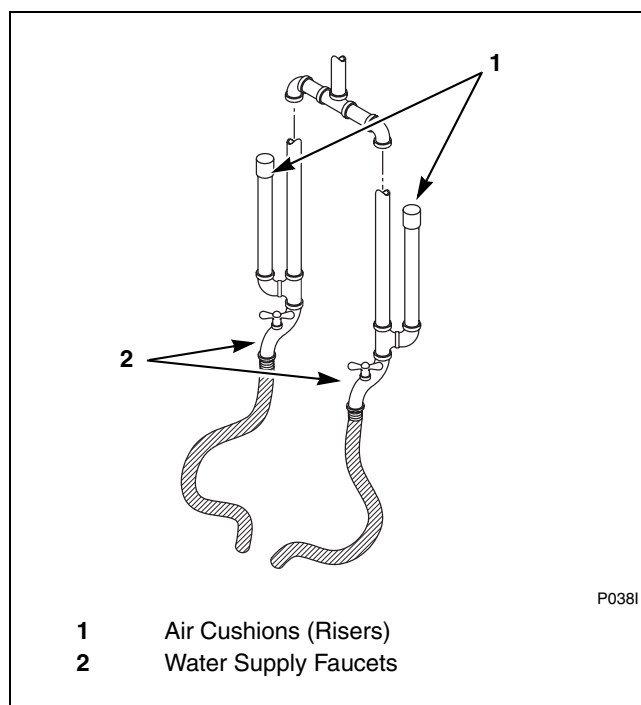

Figure 16
- Suitable air cushions should be installed in supply lines to prevent “hammering.” Refer to *Figure 16*.